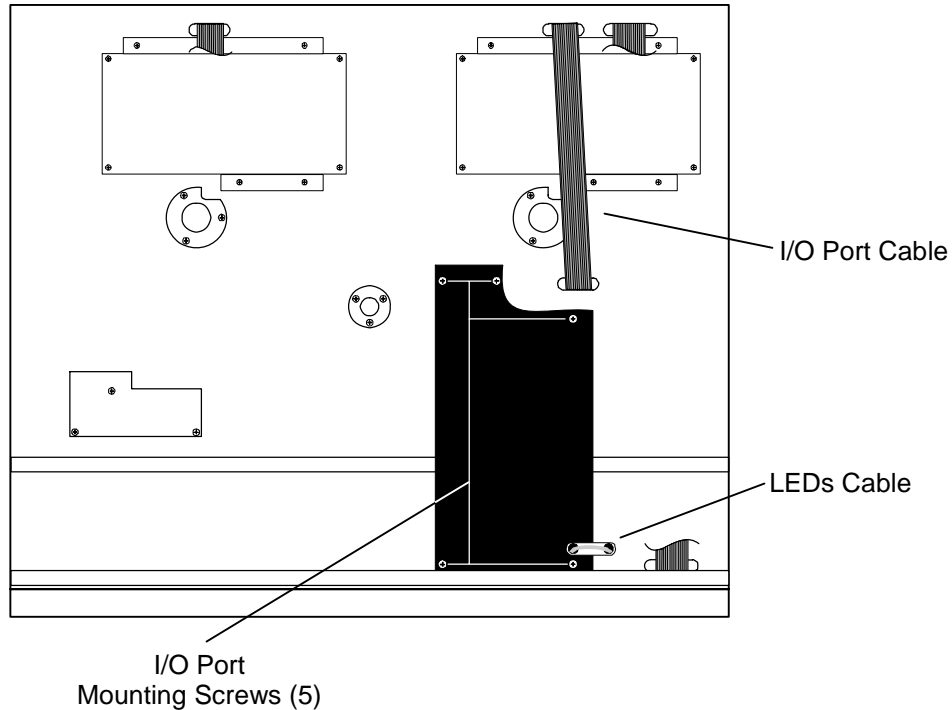

Figure 7-24 Top View of TLS
7. Support the I/O Port Assembly from the inside of the TLS with one hand, then remove all five I/O Port mounting screws from the top of the TLS (Figure 7-24).
4. Make sure that the LEDs cable is positioned in the center of the cutout in the TLS' frame (Figure 7-24).
5. Support the I/O Port Assembly with one hand from inside the TLS, while installing all five mounting screws from above (Figure 7-24).